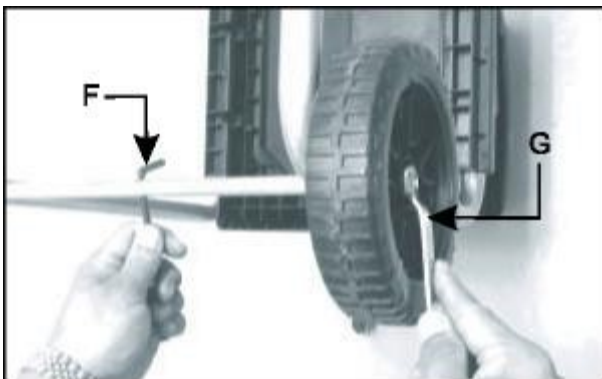

Fig. 1D
- Using the supplied hex wrench (F) to fix the wheel axle and at the same time firmly lock the nut by using the wrench (G). (Fig. 1D)